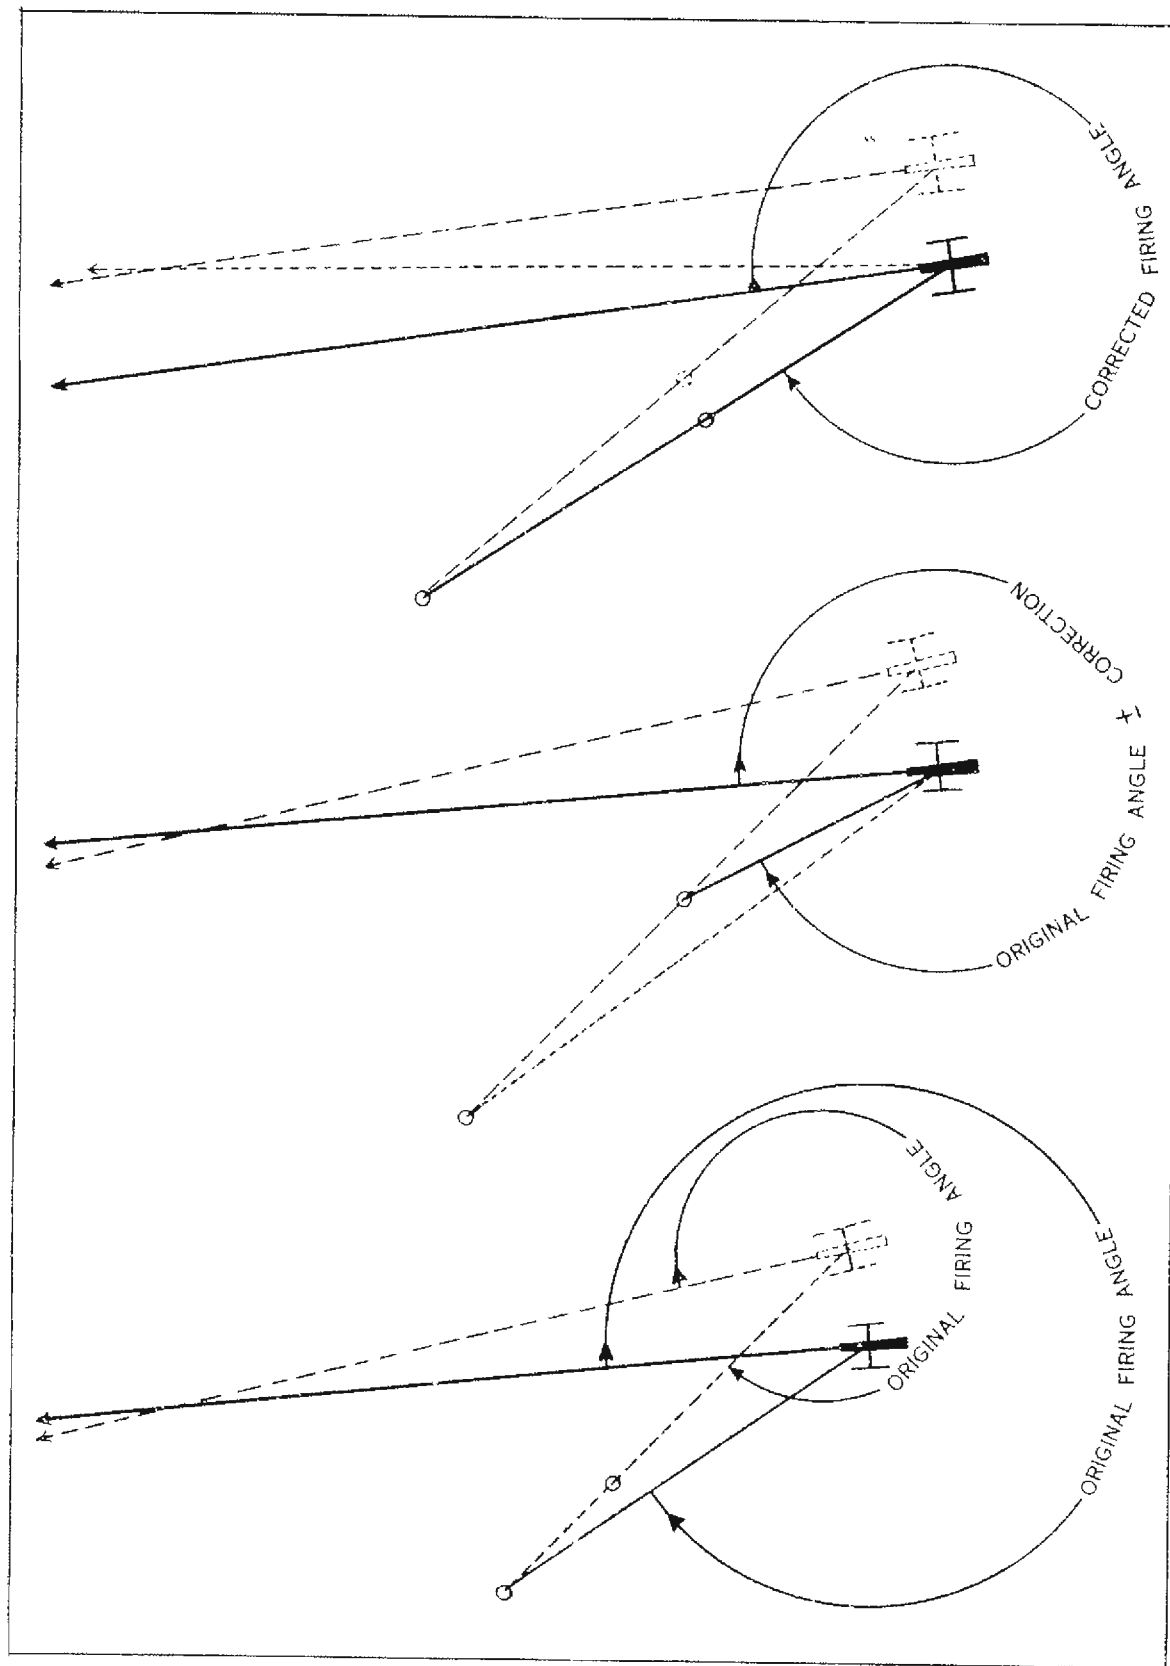

Figure 53
c. The movement of the gun from its original position, called lateral displacement, is corrected by the gunner as follows (with panoramic sight) (fig. 53):
(1) He lays on the far stake (that is, traverses the gun until the vertical crosshair in his sight is on the stake).
(2) He then refers to the near stake (that is, he turns his sight without moving the gun tube until the crosshair is on the near stake).
(3) Next he lays on the far stake with the new reading on his sight (that is, he traverses the tube without changing the sight reading until the crosshair is on the far stake). This makes the gun tube parallel to its original laying.
(4) As soon as practicable, he has the aiming stakes realigned by having the near stake moved.